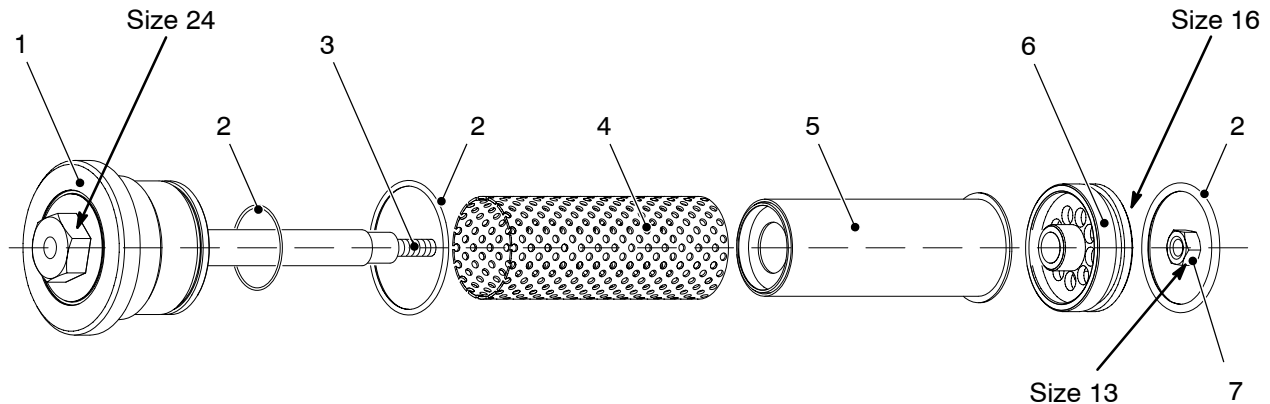

Fig. 5-14
4. Screw the nut (6, Fig. 5-14) onto the thread (3, Fig. 5-14) by hand. Use caution to prevent the filter screen from jamming.